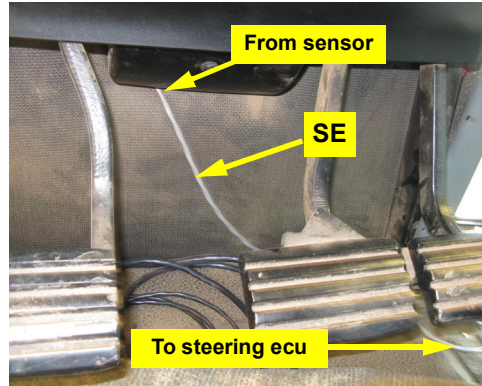

Figure 1f: Cable routing
- f. Route the cable **SE** up from the sensor at the steering shaft through the bottom of the steering console (Figure 1f).